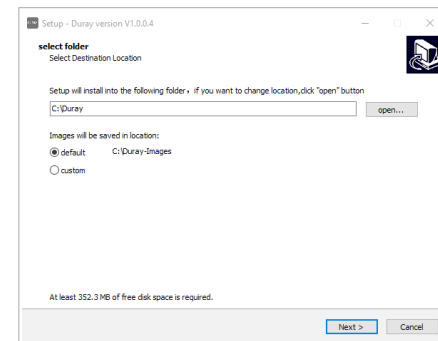

Figure 5
c) After the installation program is started, click the “Browse” button to select the installation path. After the path is selected, click the “Next” button, as shown in Figure 5: